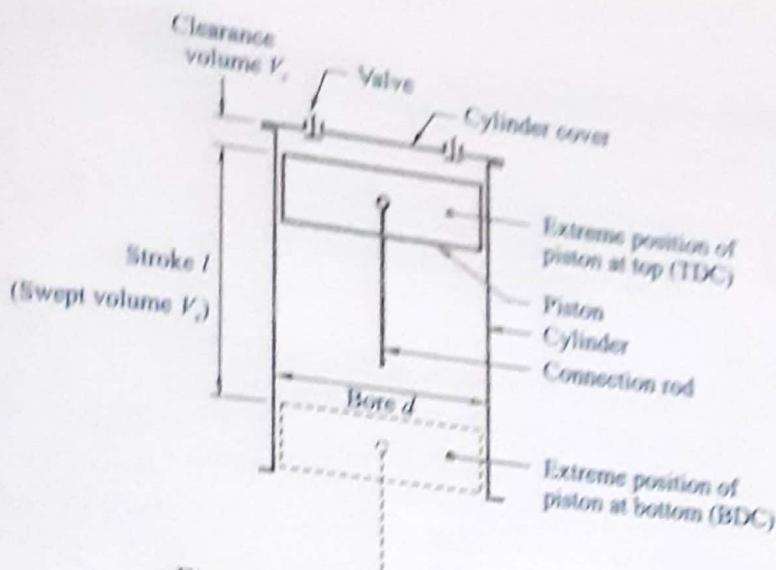

Fig. 7.3 I.C. Engine terminology
I.C. engine terminology (Refer fig. 7.3)